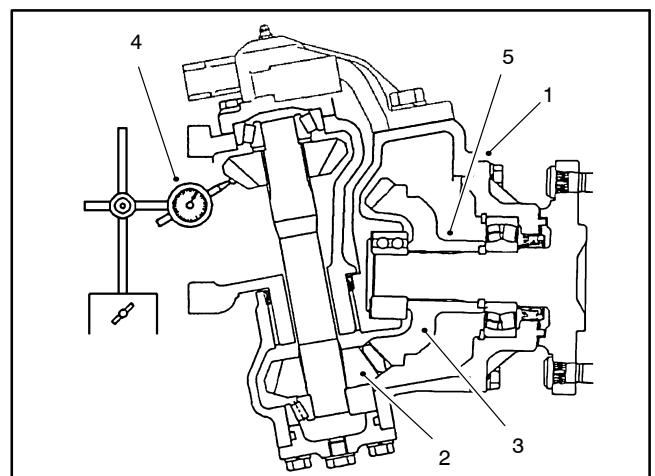

Figure 24
9. Remove the bevel gear case/axle case assembly from the axle support. Coat a new O-ring with grease and temporarily install the axle cover assembly. Position a dial indicator at the tooth's center. Prevent the axle from turning and measure the lower bevel gear to axle gear backlash (Fig. 24).